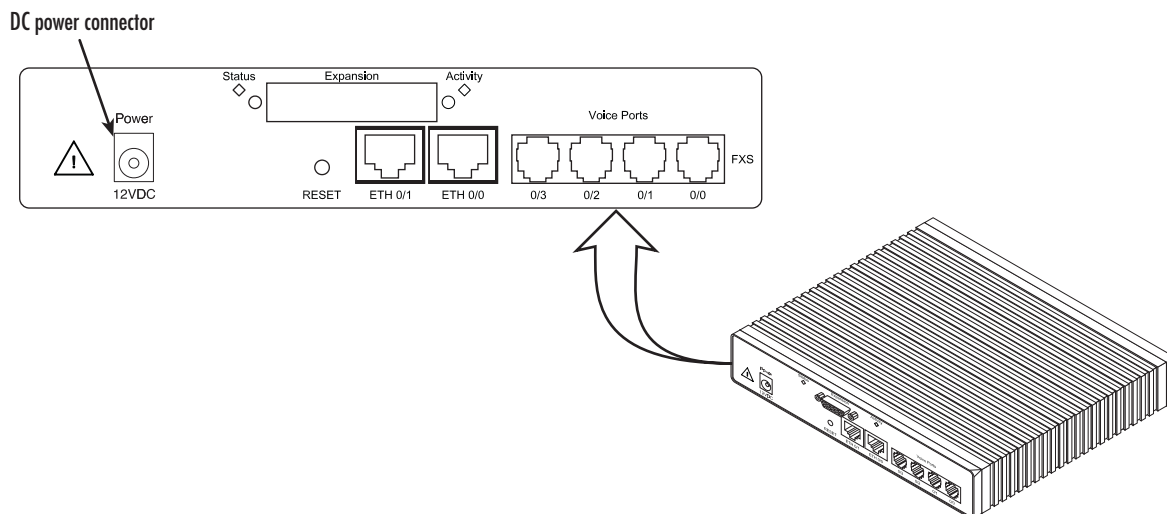

Figure 5. SmartNode 4830 Series power input connector
- *EUI* stands for external universal input power supply (see figure 5)